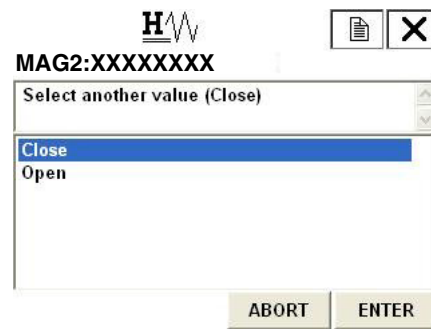

Figure 147.
3. Figure 147 appears. Move the arrow key up or down to select an OPEN or CLOSE. After making a selection, press F4 (ENTER). Selected contact is output. Press F3 (ABORT) to return to the previous menu.